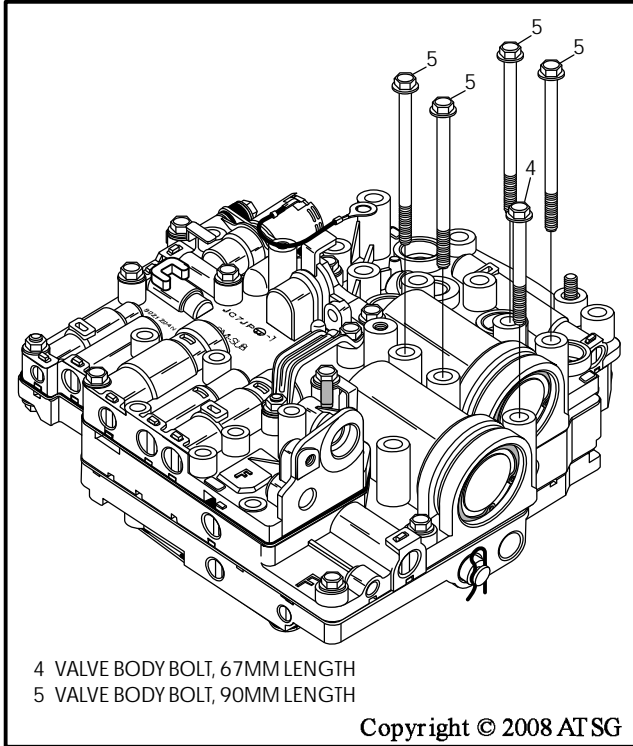

Figure 176
50. Install a 67mm bolt in the location shown in Figure 176, and hand tighten only.
51. Install four 90mm bolts in the locations shown in Figure 176, and hand tighten only.